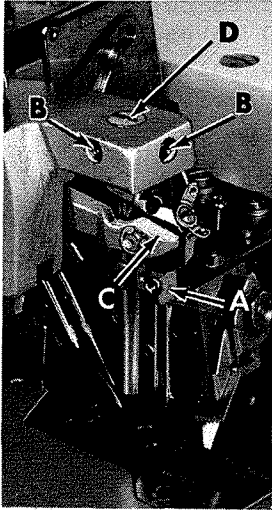
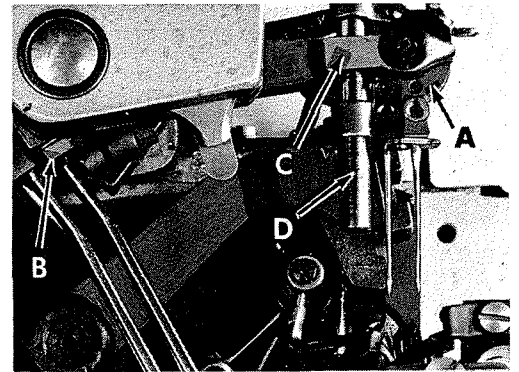
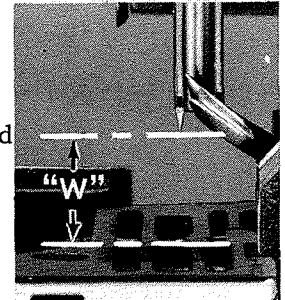

Fig. 5
Fig. 6
Fig. 7
With throat plate assembled in position, the needles should center in the throat plate needle slots (left to right). The needle head (A, Figs. 5 and 6) can be repositioned by loosening set screws (B, Fig. 5) and binder screw (B, Fig. 6) in needle drive lever (C, Figs. 5 and 6); then; simultaneously turning needle head guide bar (D) which is an eccentric and sliding the needle drive lever (C) to the left or right on needle rock shaft as required to alleviate bind. When proper left to right needle position is obtained, tighten set screws (B, Fig. 5) securely and tighten screw (B, Fig. 6) lightly.
Needle Drive lever (C, Fig. 5 and 6) must also be positioned to set height of needles above throat plate which should be 7/16 inch (11.11 mm) on Styles 39800 CA and CB; 17/32 inch (13.49 mm) on Styles 39800 CP, CQ, CX, CY, VCP, VCQ, VCX, VCY with needles at top of stroke (W, Fig. 7). Tap the needle drive lever (C, Figs. 5 and 6) lightly up or down to obtain desired needle height. Needle gauge No. 21227 DD can be used by placing it on top of the throat plate and bringing the needle head bottom to rest on top of the gauge. This will have the needles at the bottom of their stroke. Note that the gauge has separate heights, one for high, the other for low capacity machines. Tighten screw (B, Fig. 6) securely.